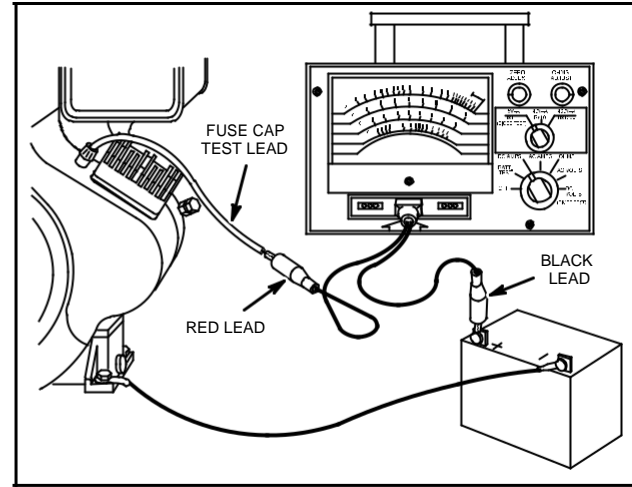

Fig. 779 – TESTING REGULATOR – RECTIFIER
4. Attach RED test lead clip to fuse cap test lead, Fig. 779.